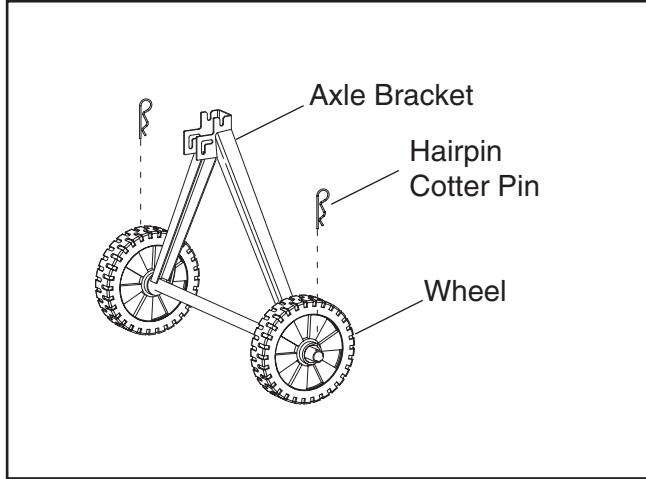

Figure 3. Wheels installed on axles.
1. Insert the wheels on the axles and secure them in place with the hairpin cotter pins, as shown in **Figure 3**.